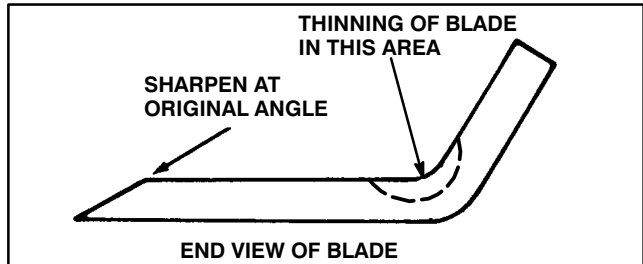

Figure 17
7. Using a file, sharpen cutting edge at both ends of the blade (Fig. 17).